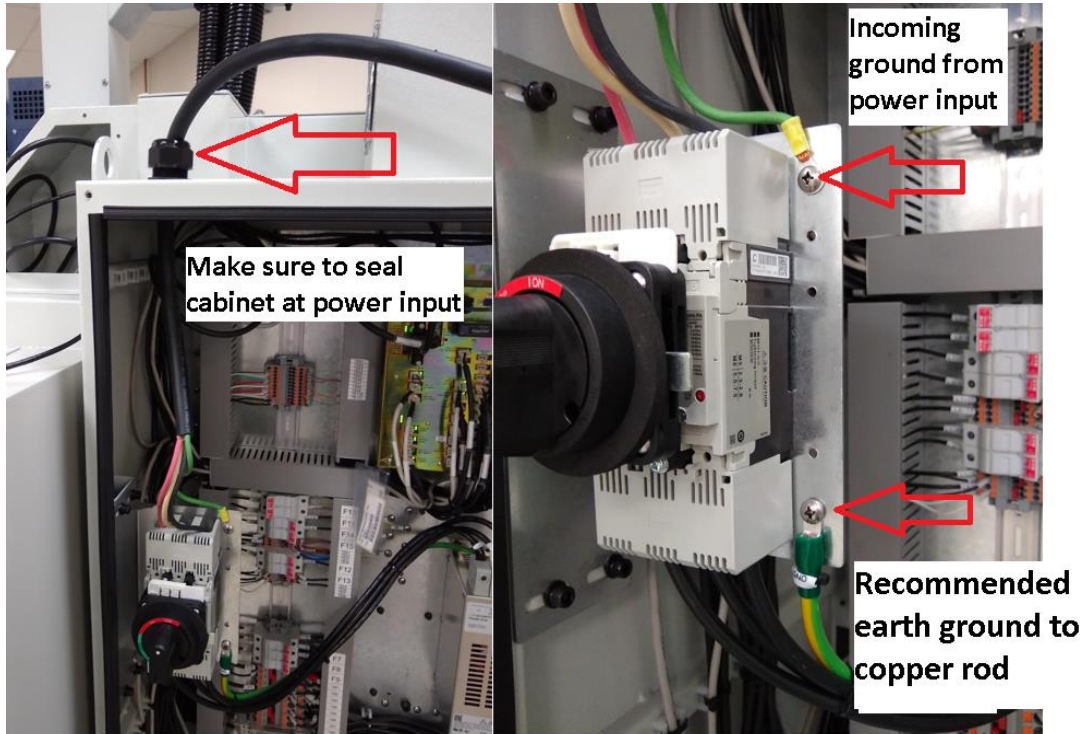
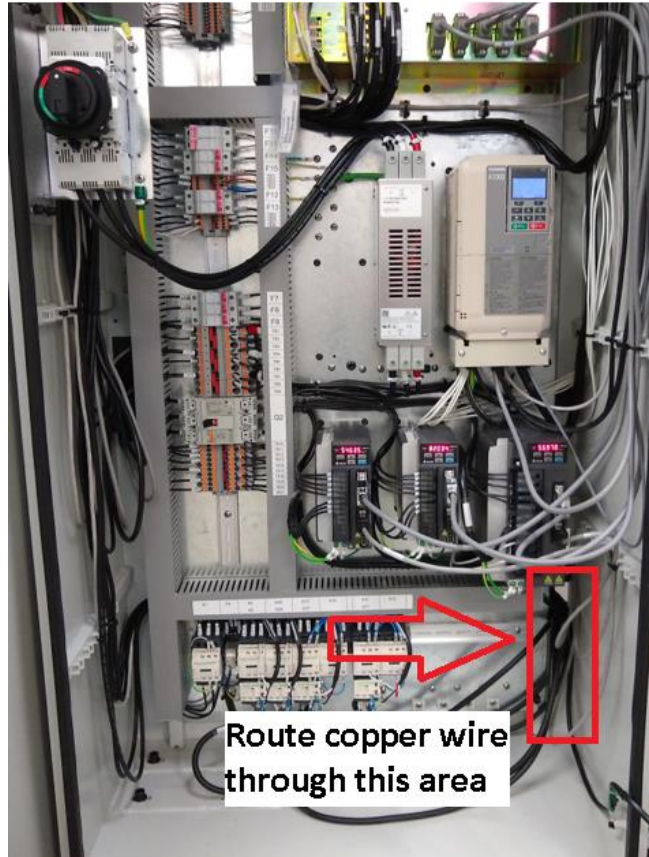

Figure 9 – Connect the Ground Wire
Figure 10 – Exit Location for Ground Wire to Copper Rod
- Machine tool must be earth grounded with a dedicated 8-foot long copper rod. The 6-gage ground wire should run from the copper rod to grounding location in the electrical cabinet. See figures 9 and 10.
The 3 phase 208 voltage (200 – 240 V is acceptable) is connected to L1, L2 and L3 at the main power switch inside the electrical box. Connect the ground wire as shown in the figure 9.
It is strongly recommended that the machine be earth grounded. A dedicated copper rod 8 feet or so in length should be driven into the ground near the TMC. A ground wire should then be run from the location shown in figure 9. The copper wire should exit the electrical cabinet in the lower right-hand corner as shown in figure 10. Make sure the foam where the copper wire goes through seals the cabinet from external debris. The wire should be 6 gage in size.